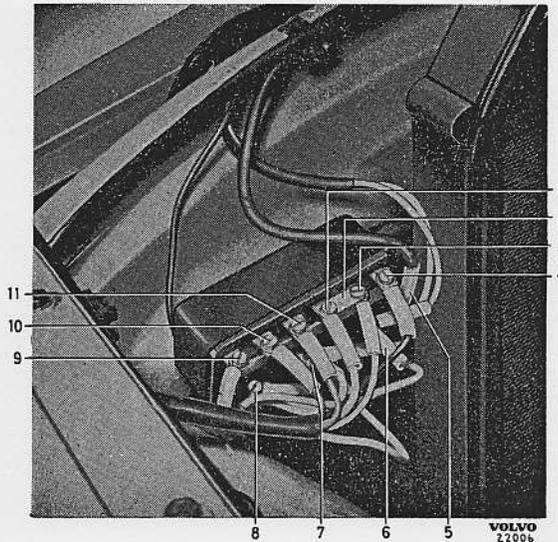

Fig. 34. Control relay connections.
1. Disconnect the bar between H and T on the relay and remove this, see Fig. 34.